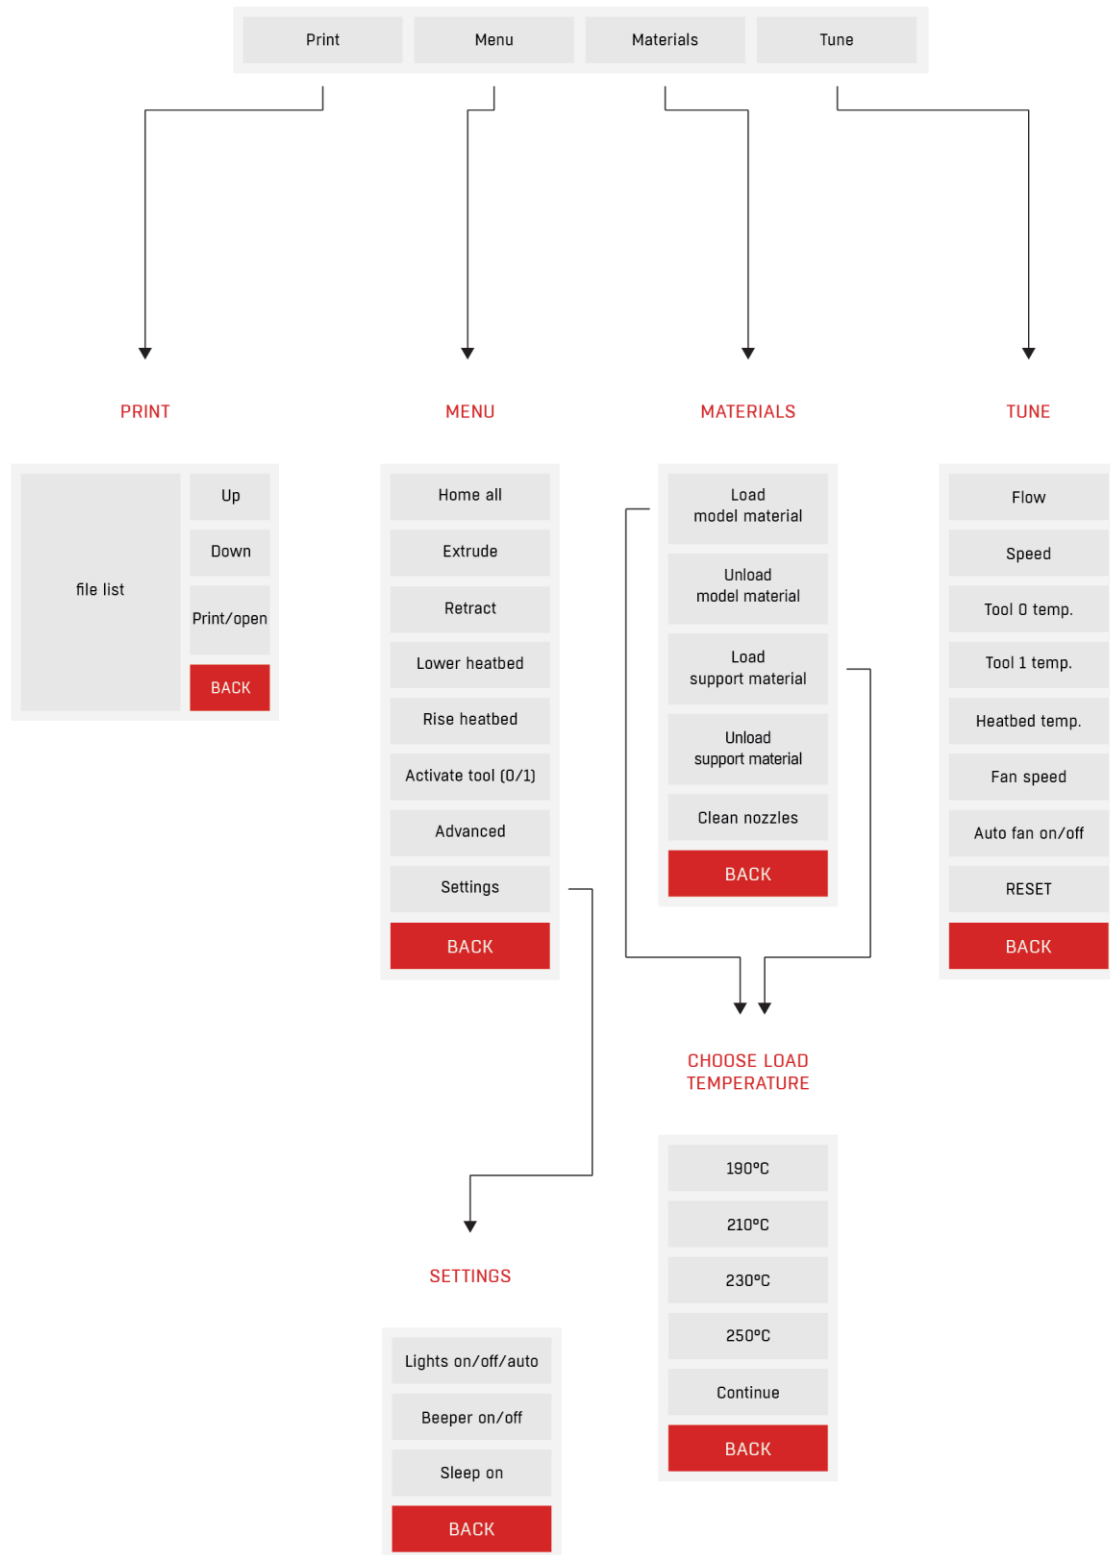

Fig. 33 Main menu structure in the idle mode
- main menu in the idle mode (fig. 33),